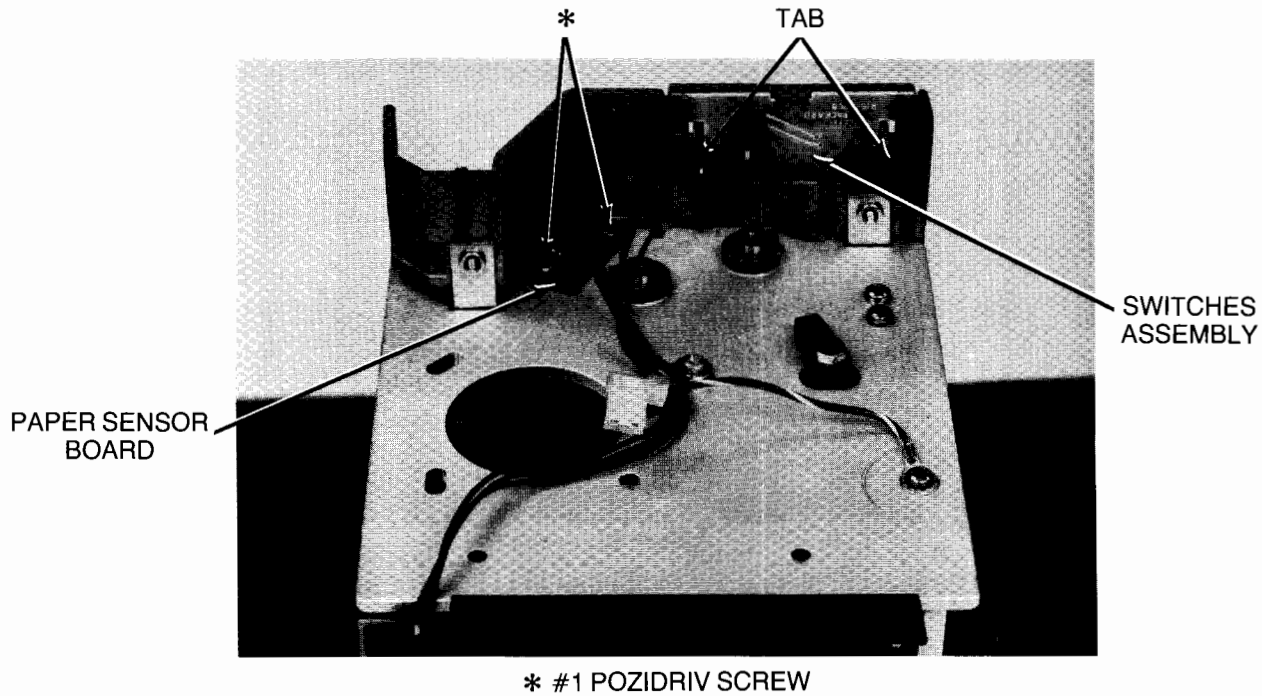

Figure 4-48. Removing Paper Sensor Board and Switches Assembly
3. From left side of printer, remove connector from paper sensor board (Figure 4-48).
4. Remove two #1 Pozidriv screws that attach paper sensor board to printer (Figure 4-48) and remove board.
3. Disconnect cable connector from underside of switches assembly (Figure 4-48).
4. Squeeze in tabs on switches assembly to release tabs from slots, and slide switches assembly out of printer (Figure 4-48).